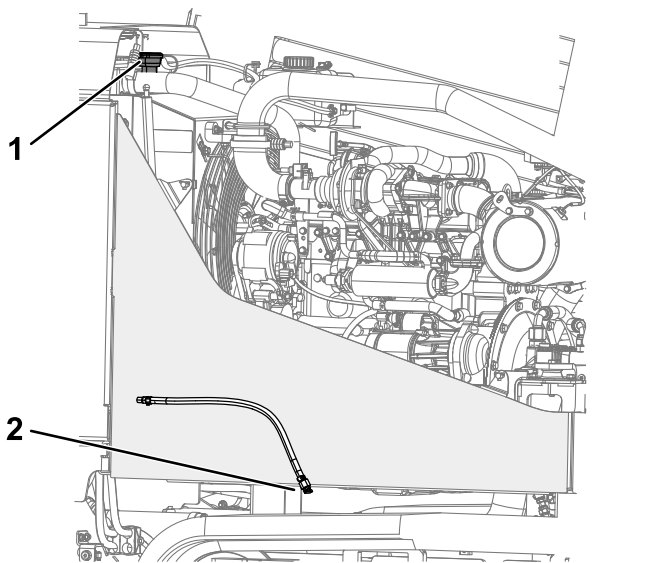

Figure 106
5. Place a drain pan under the drain plug (Figure 106).
8. Close the drain plug (Figure 106).
- C. Close the drain plug (Figure 106).
- H. Close the drain plug (Figure 106).